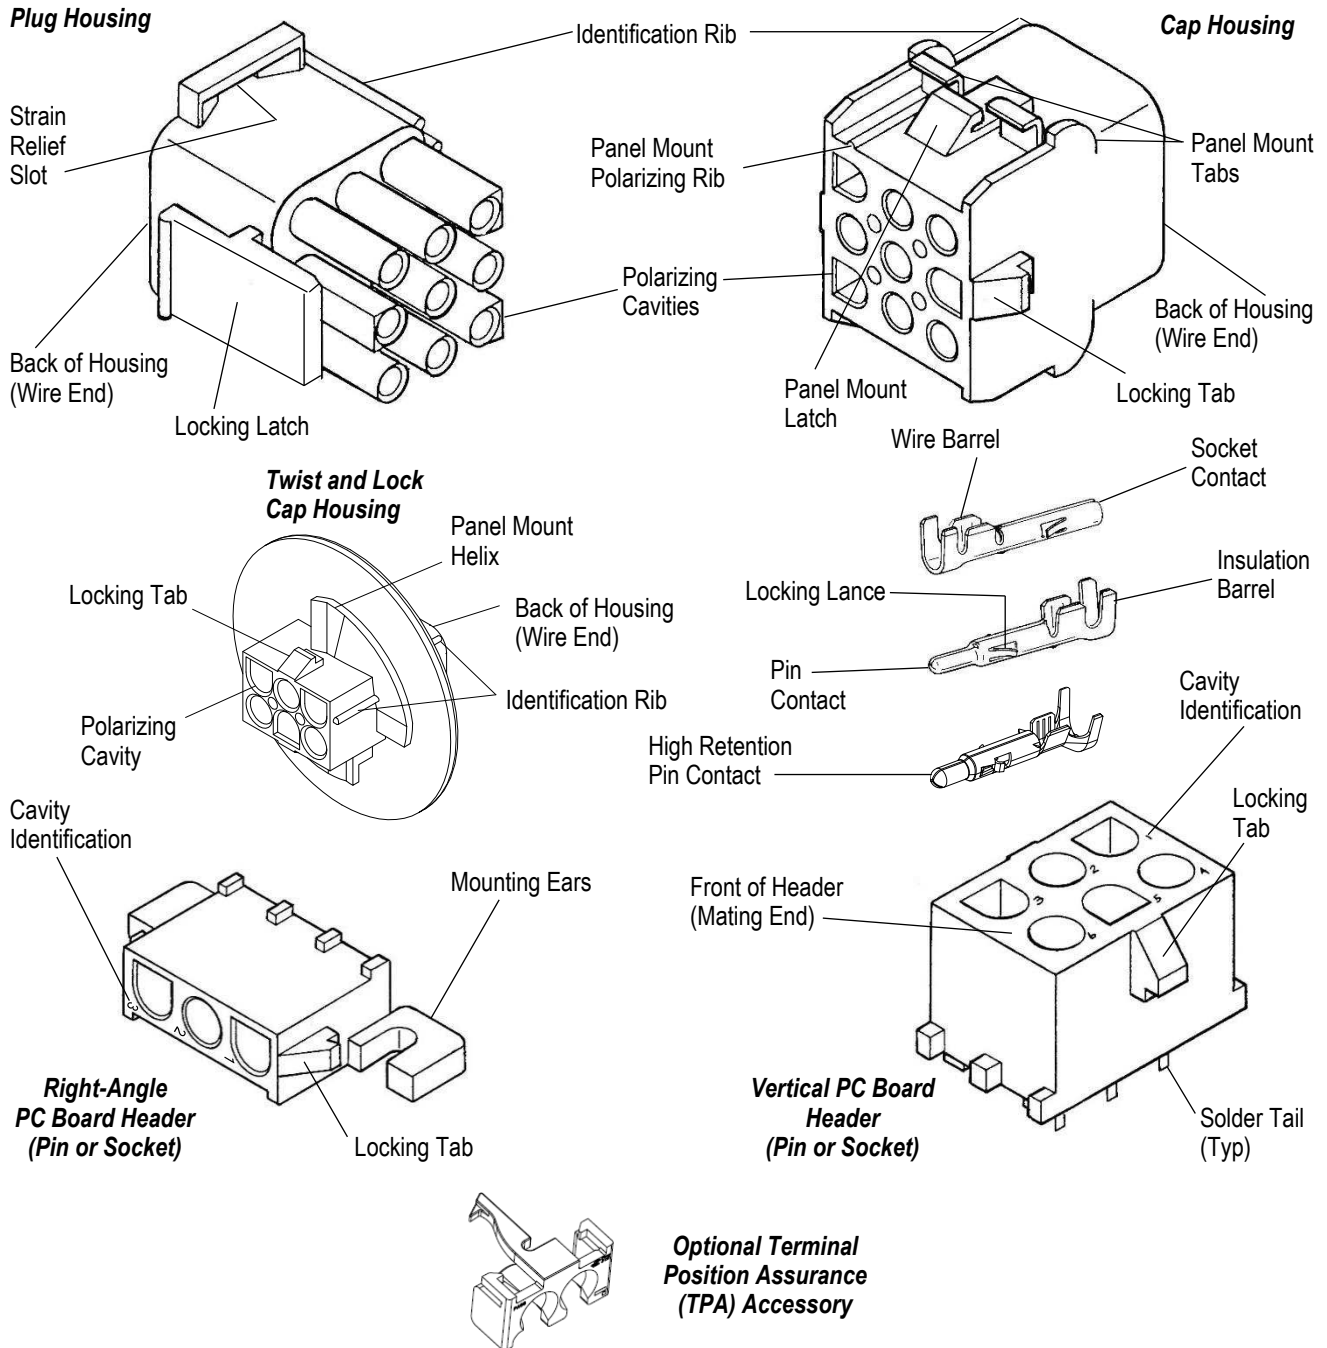

Figure 1
When corresponding with TE Connectivity Personnel, use the terminology provided in this specification to facilitate inquiries for information. Basic terms and features of this product are provided in Figure 1.
- xUpdated Paragraph 1, Figure 1, Paragraph 2.5, and Paragraph 3.9 with TPA information.